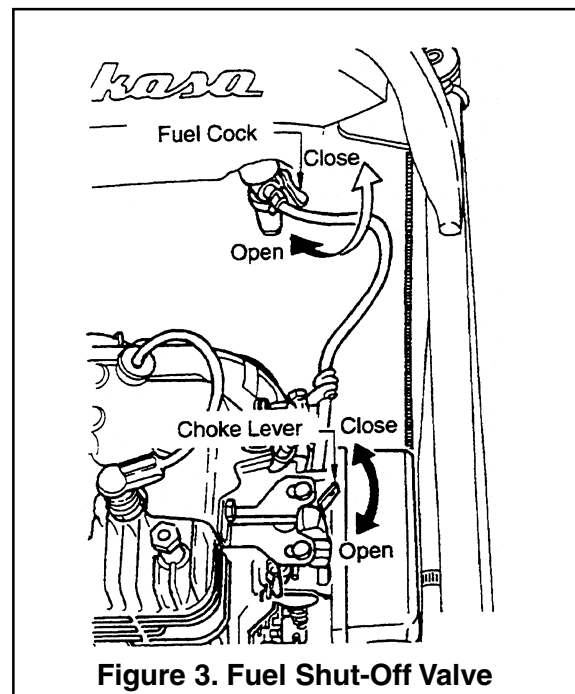

Figure 3. Fuel Shut-Off Valve
1. Open the shut-off valve by moving the strainer lever downward (Figure 3), then set the engine start/stop switch (Figure 4) to the "START" position.
- Close the choke lever Figure 3 and move the throttle lever to the "Full Open" position. Turning the choke lever 90 degrees clockwise closes the choke. In cold weather, start the unit with choke fully closed. In warm weather or when the engine is warm, the unit can be started with choke halfway or completely open.
- If engine fails to start, move the choke lever (Figure 3) to the half open position to avoid flooding.
- Close the fuel shut-off valve by moving the strainer lever upward. See Figure 3.